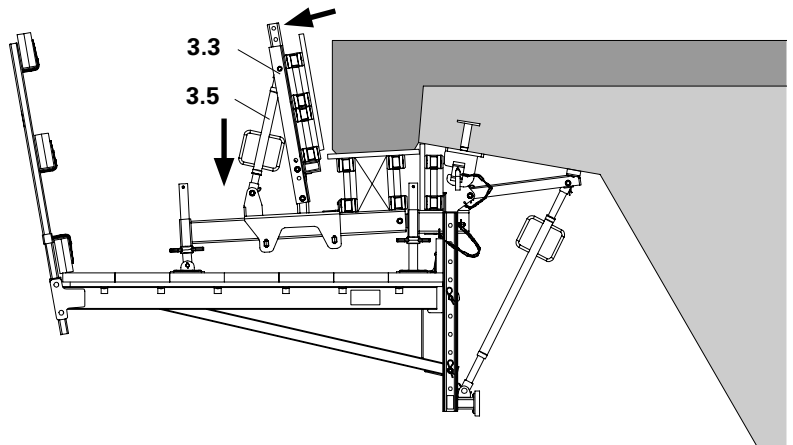

Fig. C2.01
2. Remove side formwork. (Fig. C2.01)